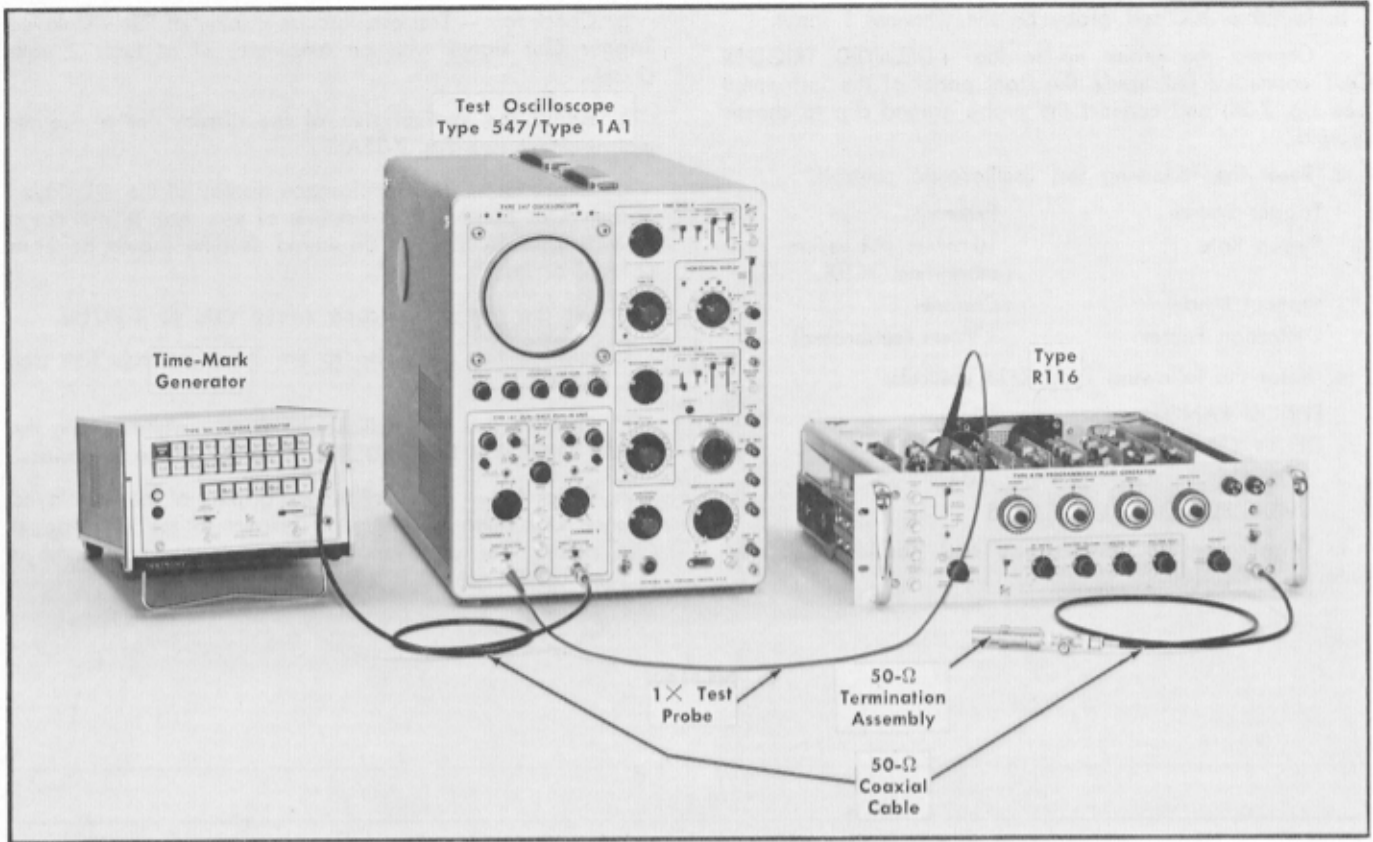

Fig. 7-36. Initial test equipment setup for calibration steps 33 through 36.
- a. Test equipment setup is shown in Fig. 7-36.
m. If R502 is adjusted, reset the period multiplier and oscilloscope sweep rate controls as given under Fig. 7-36 and recheck the period timing adjustments as in steps d through k.